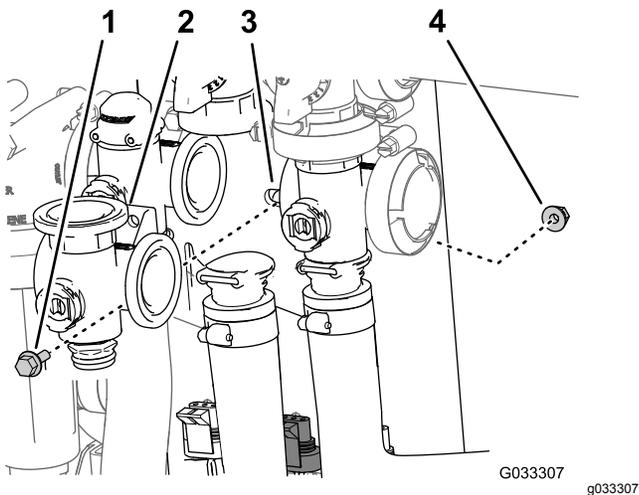

Figure 65
3. Remove the flanged-head bolt and flanged locknut that secures the agitation valve to the valve mount and remove the valve manifold from the machine (Figure 65).